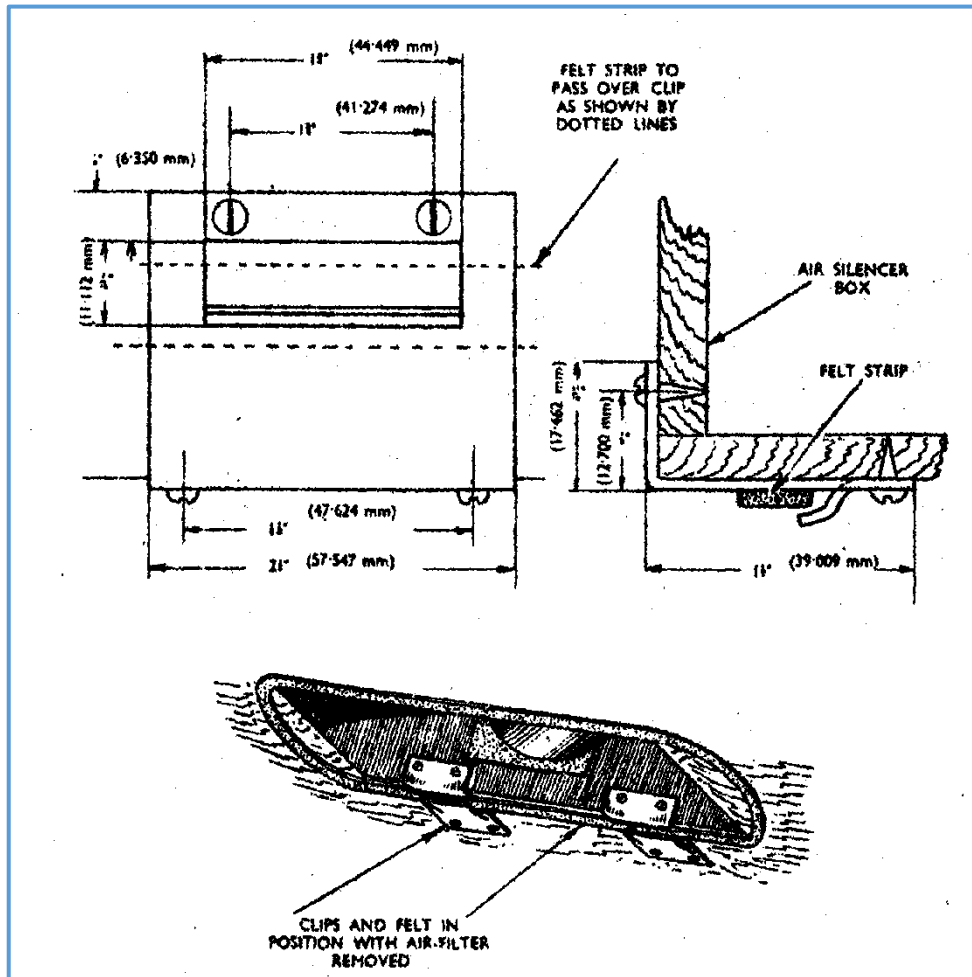

Figure 1. Modified air cleaner bracket arrangement.
The distance between the steering ball housing and the steering arm **must not** under any circumstances be less than $\frac{1}{16}$ " (1.587 mm) with the spring arm in the full rebound position. Please refer to Figure 1 for any clarification of this point.
Right: Figure 1. Steering ball nip clearance.
If the housing is free to rotate, a clearance is indicated between the inner edge of the steering ball housing and the steering ball neck. Please refer to *Figure 1*.
Above: Figure 1. Sketch showing position of rear number plate and light when fitting tow bar to 1951 De Luxe models.
1. Remove the number plate box from the bumper bar and fit a standard type rear number plate, Part Number 51032, to the rear boot panel in the position shown in Figure 1. Mount the four rubber washers, Part Number 51050.
Figure 1 above shows a PC Deluxe model with above items correctly positioned for the fitting of a tow bar attachment.
With effect from Engine Number E0 PB 8950 the woodscrews which secure the air filter brackets to the air silencer base, have been replaced by threaded screws and rivet nuts. On cars prior to the above Engine Number where difficulty is experienced with the original filter mounting, modified securing brackets may be fitted. This type of bracket, Part Number 54237, is held firmly in position by four wood screws set at right angles to each other, as shown in *Figure 1*.
Right: Figure 1. Hydraulic tappet extractor.
Right: Figure 1. Location of sludge release hole.
When vehicles prior to Engine Number E1 PC 17402 are in your service department for engine repairs, the opportunity may be taken to carry out the connecting rod modification as detailed in *Figure 1*.